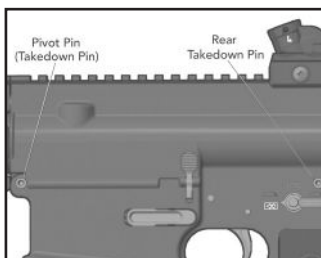

Fig. 37 – Takedown Pins
- b. Insert the small tip of the disassembly tool into the spring loaded detent located in the center of the rear takedown pin. Push the disassembly tool from left to right until the takedown pin reaches its limit of lateral travel (Fig. 37, 38).